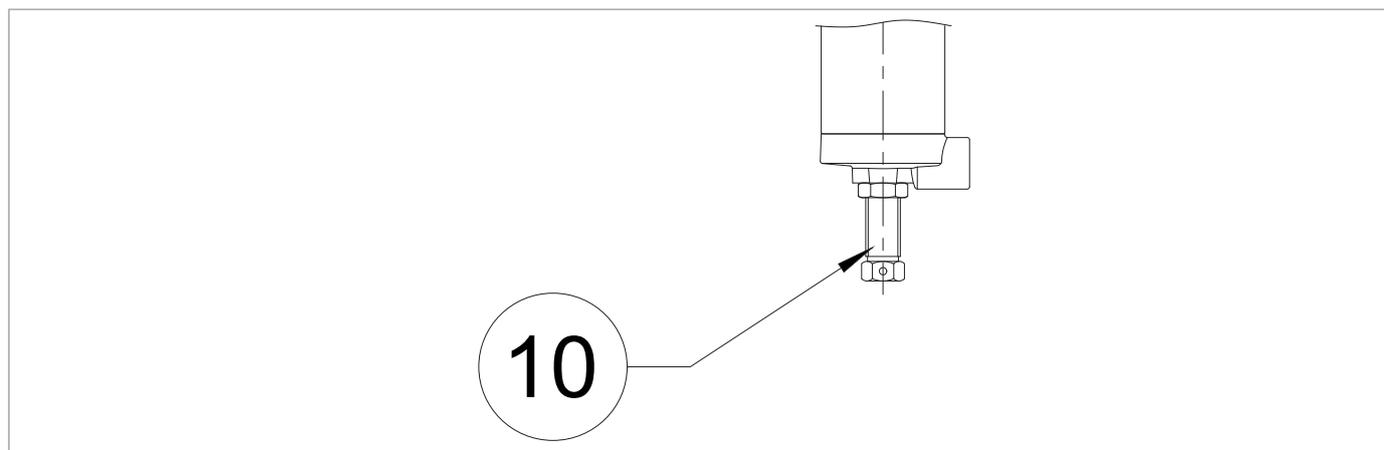

Fig. 8.25. 200/MP Series Pilots
Turn the adjusting screw (10) Fig. 8.25 to set the maximum calibration pressure value:
Turn the adjusting screw (10) Fig. 8.25 to set the minimum calibration pressure value:
15	Lock the adjustment screw (Fig. 8.25 ref. 10) with the pilot fixing nut (3).